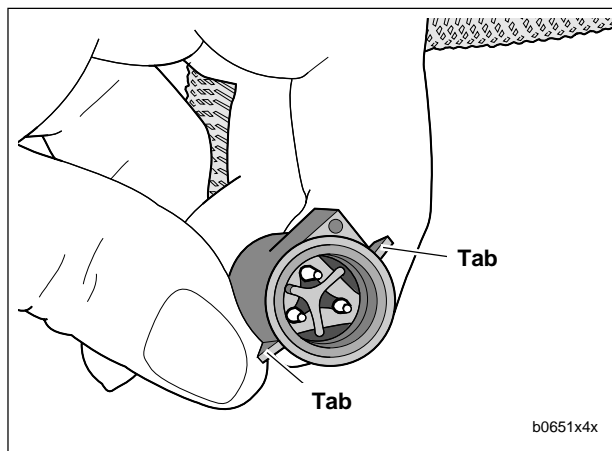

Figure 4-193. Tabs on TP Sensor Connector [88A]
4. See Figure 4-193. Attach throttle position sensor connector [88]. Slots on female connector [88B] must fully engage tabs on male connector housing [88A].